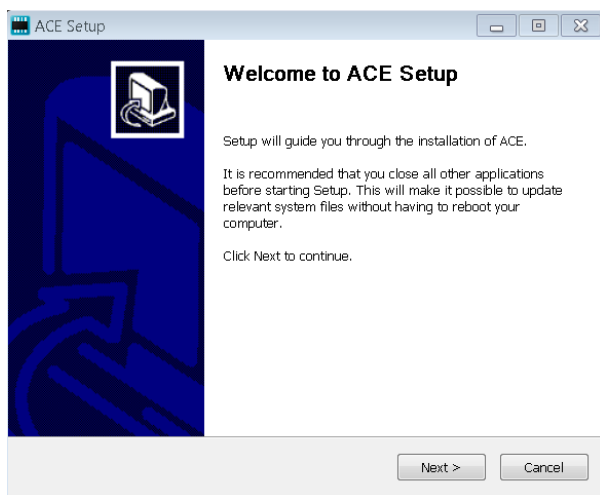

Figure 3. ACE Software Installation Confirmation
4. In the **ACE Setup** window, click **Next >** to continue the installation (see Figure 3).